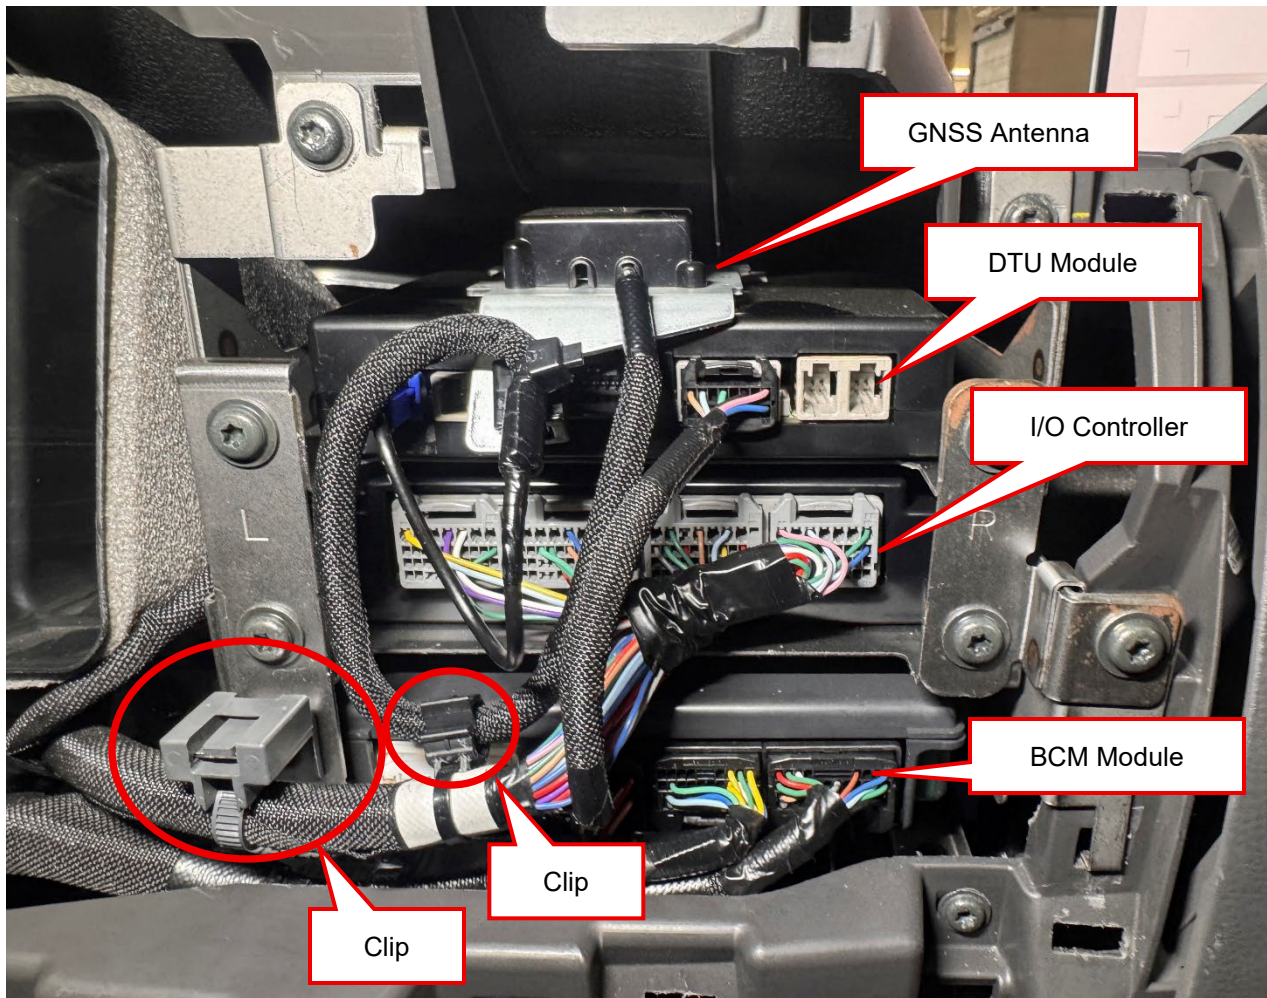

Figure 39
33. Disconnect the Data Transfer Unit (DTU), I/O Controller, and the Body Control Module (BCM) connectors first, then the two harness clips. (See Figure 39.)
50. Reconnect the connectors on the DTU, I/O Controller, and the BCM unit and reinstall the two harness clips. (See Figure 39.)